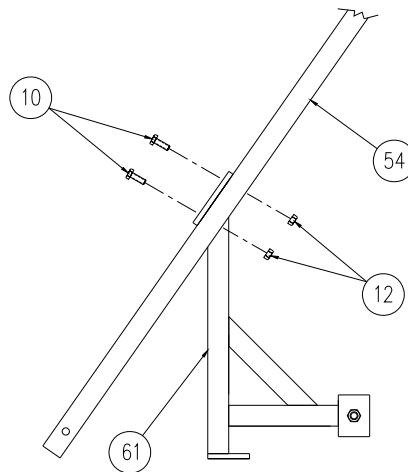

Figure 3-2
3. **Refer to figure 3-2.** Attach the long handle brace (item #61) to the long handle assembly (item #54) and fasten into place using provided hardware (items #10 and #12).